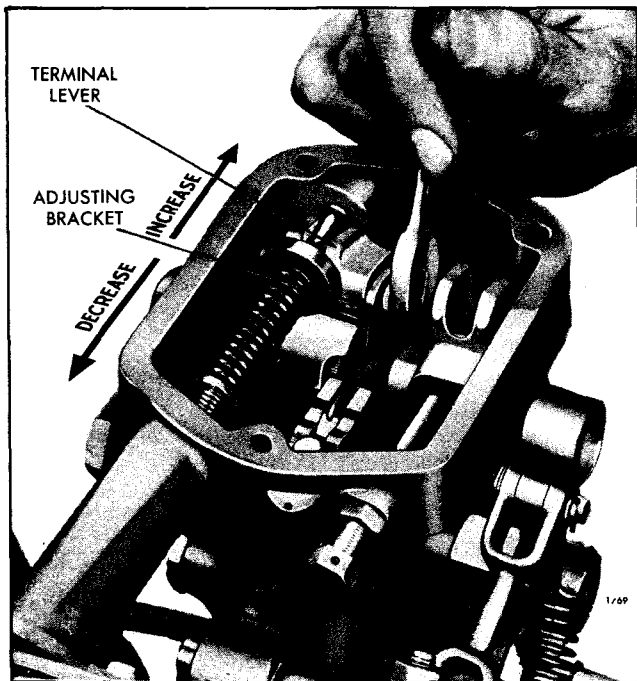

Fig. 4 - Adjusting Speed Droop
4. Refer to Fig. 4 and loosen the droop adjusting bolt. Move the bracket so that the bolt is midway between the ends of the slot in the bracket. Tighten the bolt. Be sure the bracket remains on the shoulder of the terminal lever.